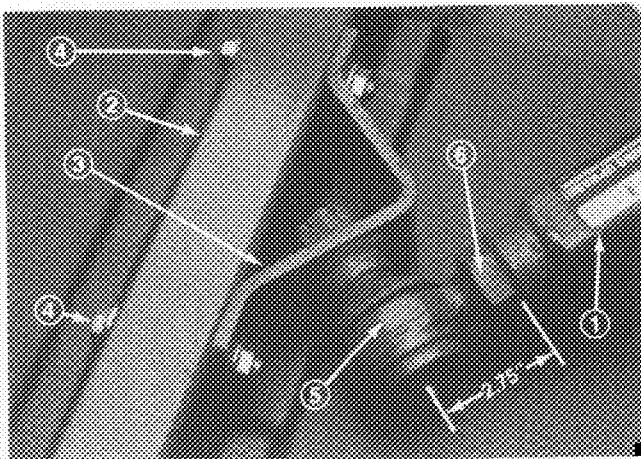

Figure 5
5. Secure ball joint mount to castor arm with (2) 7/16 - 14 x 3" lg. capscrews, 15/32" I.D. x 59/64" O.D. flatwashers and 7/16 - 14 flange nuts. Flatwashers to be positioned to outside of castor arm.
6. Tighten large jam nut securing ball joint to push arm (Fig. 5). When tightening jam nut, hold ball joint straight to permit proper oscillation during raising and lowering of cutting unit. Carefully remove wood block holding push arm down.